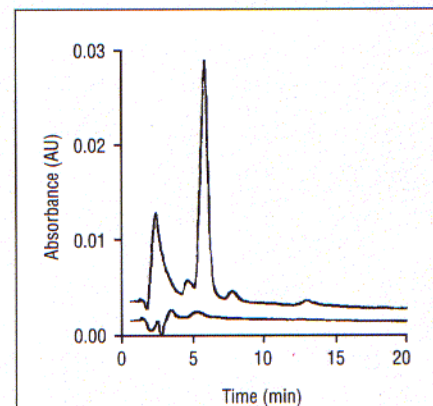

FIGURE 1: Chromatograms obtained from injection of mobile phase using (upper) new and (lower) extensively cleaned sample loop (1).
Input: My research involves the trace analysis of explosives residues by liquid chromatography (LC) with UV detection at 210 or 240 nm. In an attempt to gain more sensitivity, I recently switched to a larger injection volume. I ordered a 100- μ L stainless steel loop from a chromatography supplier, received the shipment, and connected the loop to the manual six-port injector. My research assistant and I immediately began to inject solutions of explosives standards into the 150 mm \times 2.1 mm, 5- μ m d_p C18 column. To our dismay, very large peaks (on our scale of 0–0.005 absorbance) of unknown origin obscured the expected explosives peaks. We didn't know if these peaks were sample solvent artifacts or the results of the injection loop itself. To check, we injected mobile phase (50% methanol–50% water) and found the same interference (see the upper trace in Figure 1),
We decided to clean the loop by filling it with solvent, waiting 1 h, and then rinsing the loop again. Solvents were used in the following order: toluene, acetonitrile, methanol, and 50% methanol–50% water. After cleaning the injection loop, the chromatogram (Figure 1 lower trace) from an injection of mobile phase improved significantly. After more cleaning in the same manner, the new injection loop yielded acceptable blank chromatograms for our trace analysis.